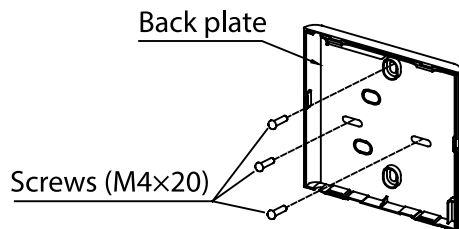

Fig 3.5
- For surface mounting, fasten the back plate on the wall with the 3 screws (M4x20) and plugs. (Fig.3.5)